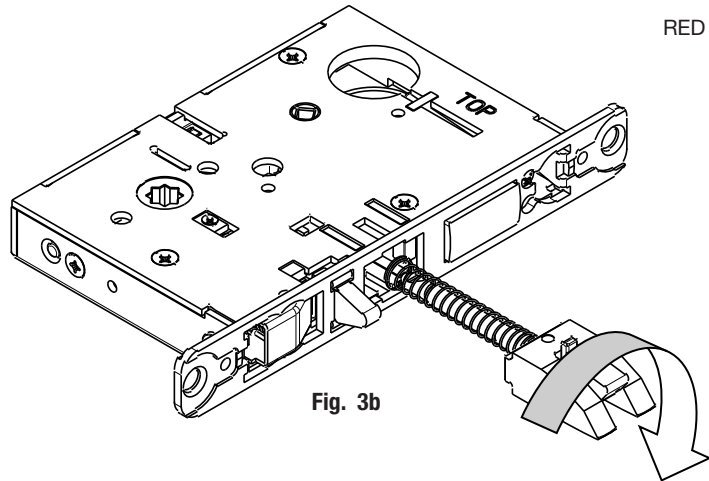

Fig. 3b
Step 3) Pull latch out of lock body and turn latch over (Fig. 3b)